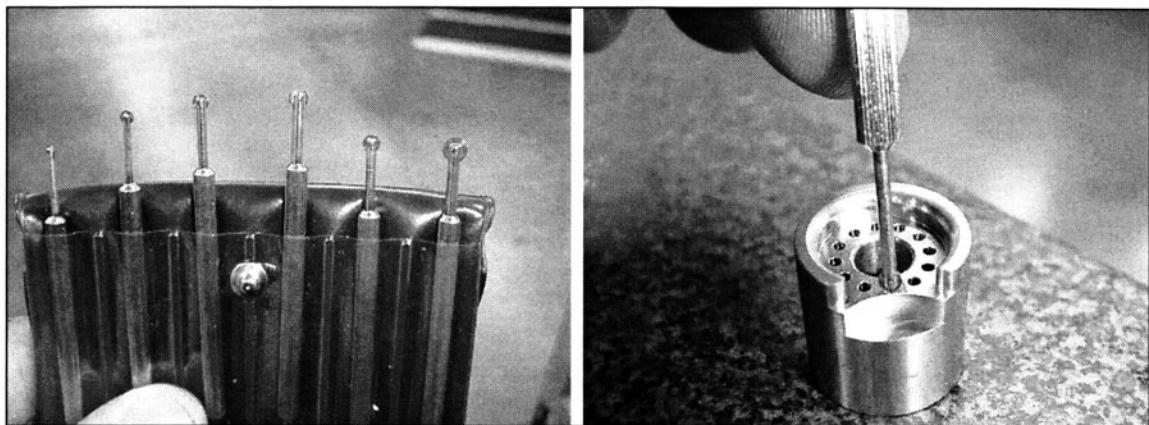

FIGURE 4-12 These tools work great for deburring small holes. They can be found in various industrial tool catalogs.
15. *Deburr tiny holes with the proper tools. (See Fig. 4-12)*